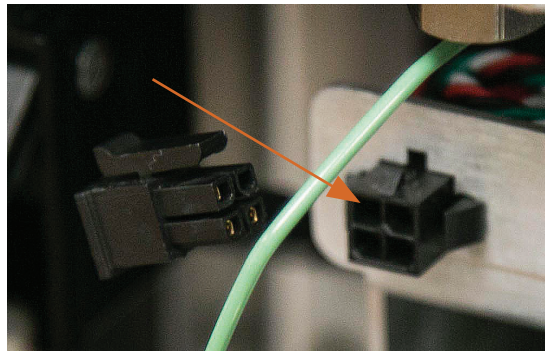

Figure 2-4 Black connection with tab facing up
4. When the pump assembly is most of the way in the pump compartment, connect the electrical connections on each side of the pump. First, connect the black connection on the left side. Ensure the tab on top of the connector is facing up before pushing it into the mating connector (Figure 2-4).